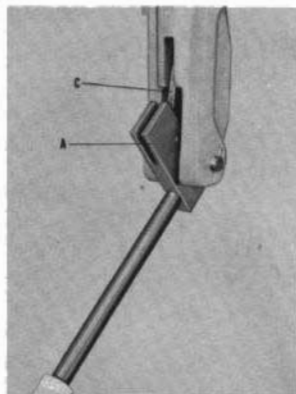

FIG. 2
Place toggle block (A) link (C) and ram (not shown) into tool as shown. Place original Super Tool handle and toggle pin in position as per Fig. 2. Keep handle tight.